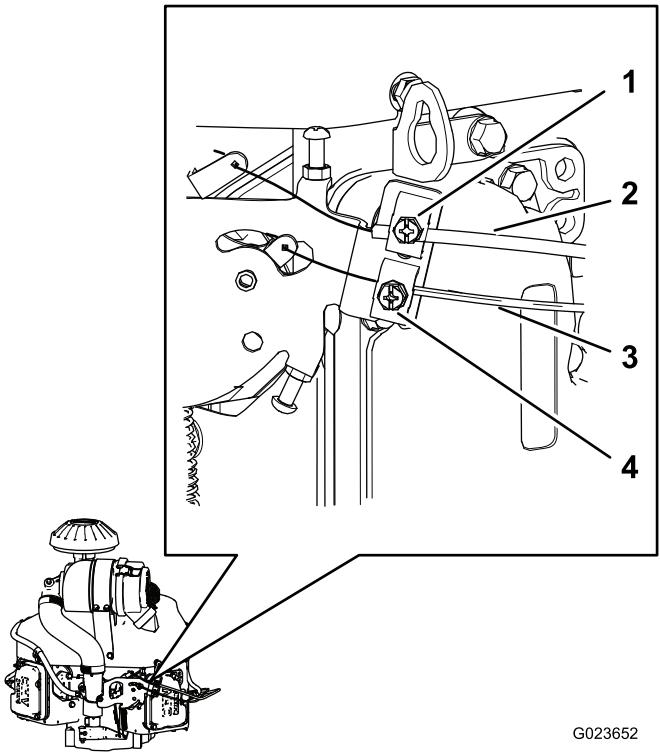

Figure 65
2. Loosen the clamp screw securing the throttle-cable housing to the engine (Figure 65).
4. Pull up the cable housing of the throttle cable (Figure 65) until the throttle cable has almost no slack, and tighten the clamp screw.
2. Loosen the clamp screw securing the choke-cable housing to the engine (Figure 65).
5. Pull up the cable housing of the choke cable (Figure 65) until the choke cable has almost no slack, and tighten the clamp screw.